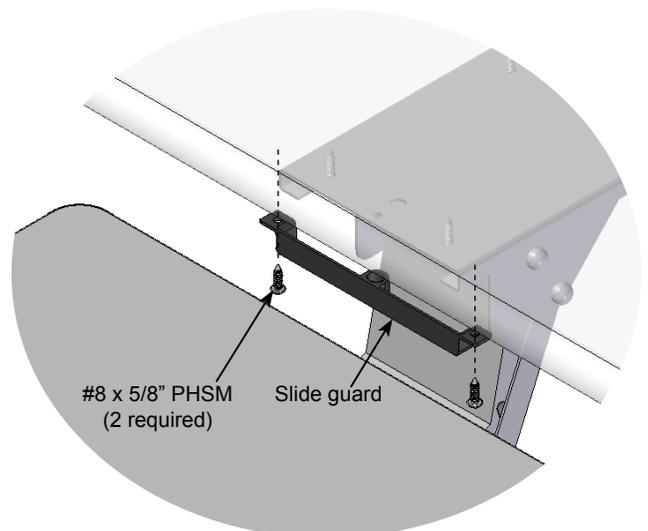

Figure 3B
3. Using (2) #8 x 5/8" PHSM screws, attach the slide guard to the front of the slide. **Figure 3B.**